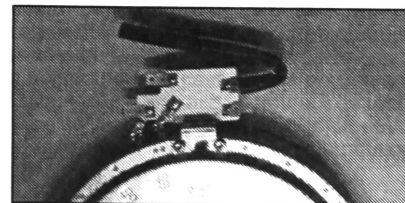

FIGURE 4
5. Connect extension wire to range harness and appropriate terminal block location. Place the tube so it completely covers the terminals. See Figure 4.